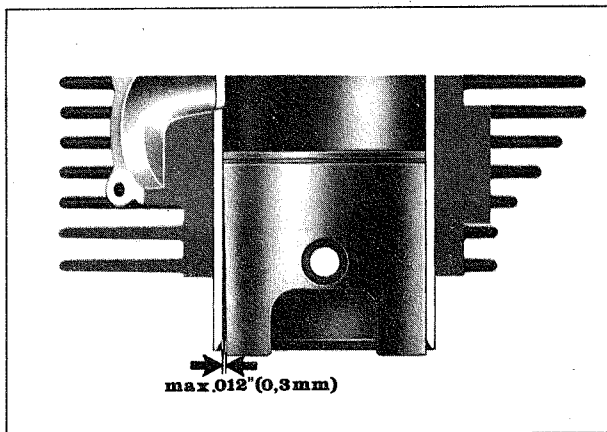

Fig. 6
- B. When the piston skirt is worn down so that a measurement of approx. .012" can be taken as illustrated in Fig. 6, scrap the piston.